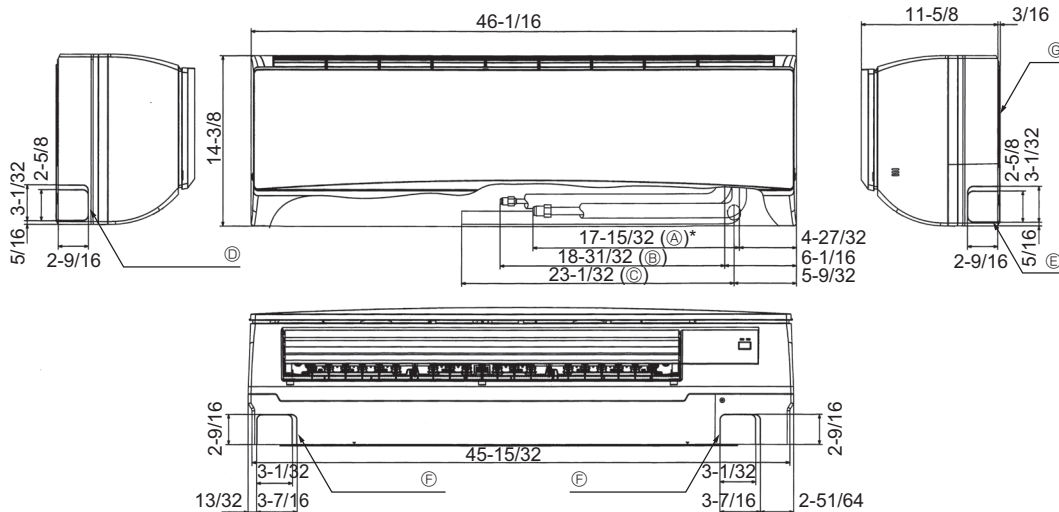

Fig. 4-2
4.3. Positioning refrigerant and drain piping (Fig. 4-2)
- Ⓖ Mount board ①